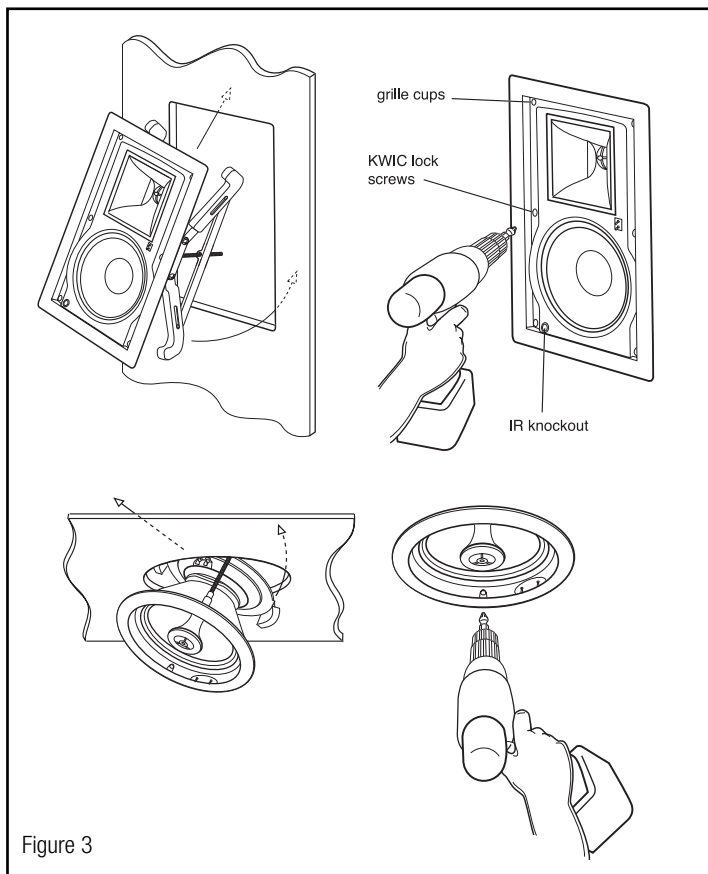

Figure 3
4. Insert the speaker assembly into the opening and attach by tightening the two Phillips screws (figure 3). The frame's KWIC lock will "sandwich" the wall and frame together. (Klipsch new construction brackets make this simple if used prior to drywall installation.)